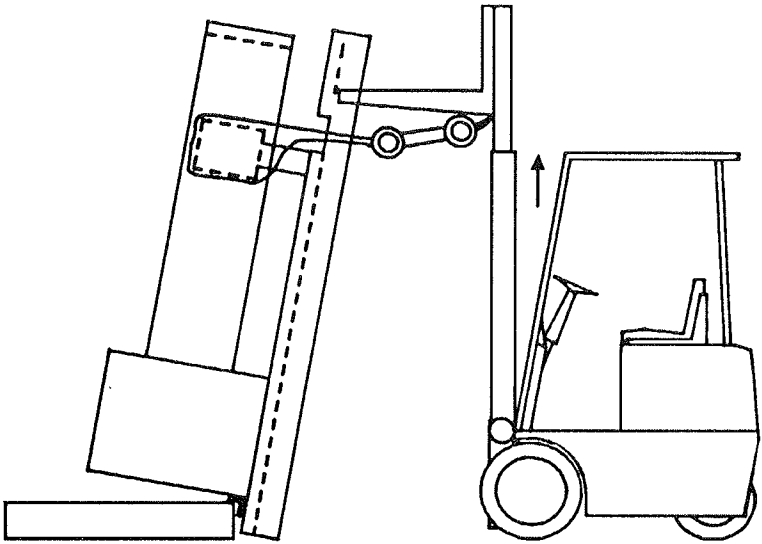

Figure 3-5. Final Positioning
- (h) When the load frame reaches a balance point, use the block and tackle to hold it against the forklift as Figure 3-5 illustrates.